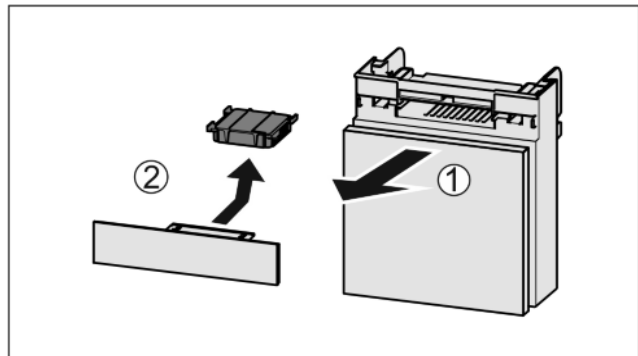

Fig. 53
- ▶ Pull out the compartment Fig. 53 (1).
- ▶ Remove the carbon filter Fig. 53 (2).